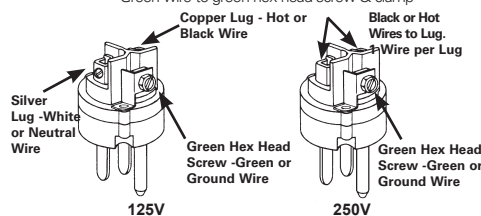

Figure 5
5. Attach conductors (See Figure 5).